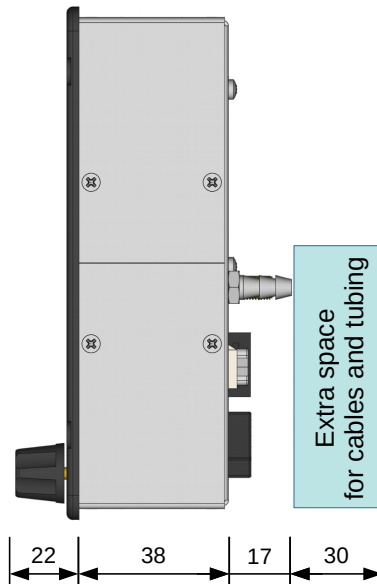
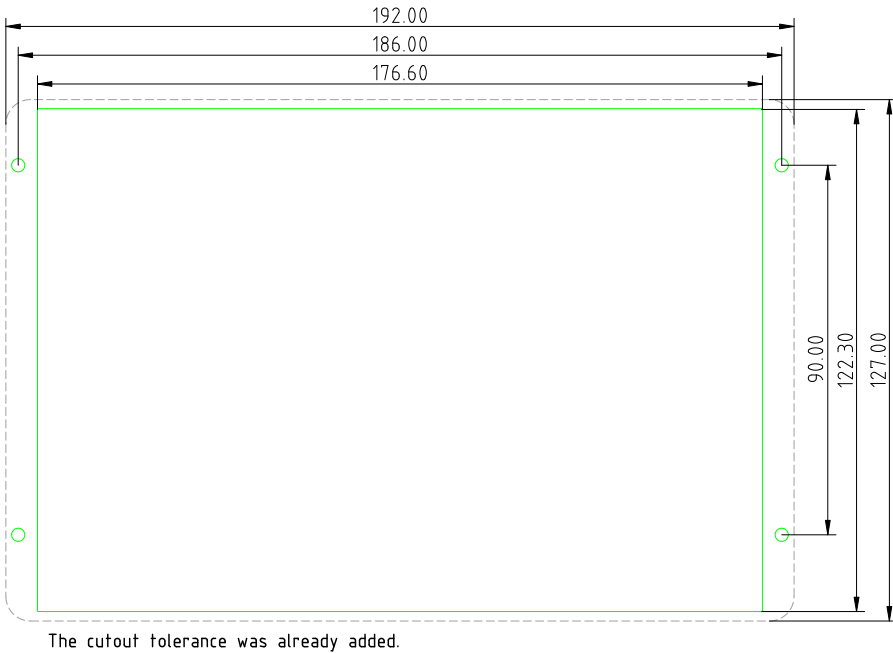

Figure 1: Aetos side view with dimensions.
Figure 4: Aetos cutout dimensions. The figure is not actual size!
- The display housing extends behind instrument panel and some extra space must also allocated for the connectors, cables and tubes. See Figure 1 for more details.
The display main dimensions are shown on Figures 1 – 3 and Figure 4 shows the cutout.
Cut your instrument panel according to your Aetos display size using cut-out dimensions and cut-out templates. The cut-out drawing can be downloaded from our web page: www.kanardia.eu/support/manuals/, search for the **Aetos Cutout.pdf** or **Aetos Cutout.dxf**. Please note that the cutout tolerance was already added to the green cutout line. Figure 4 illustrates the cutout dimension.